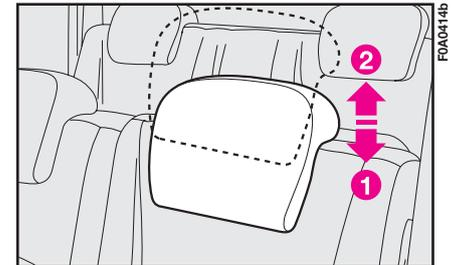
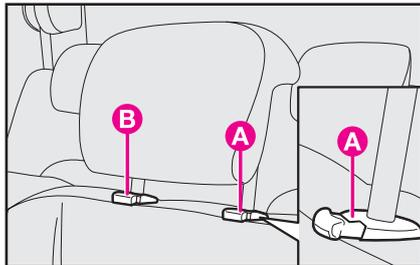

fig. 62a
fig. 62b
Head restraints for rear seats are mobile **fig. 62a**. To use head restraints, raise them from non-use position (1) to use position (2). To set them back to “non-use position” (1), press the outer button **A-fig. 62b** and push down the head restraint. Rear head restraints can be removed; to remove them: press buttons **A** and **B** and then raise them to complete removal.